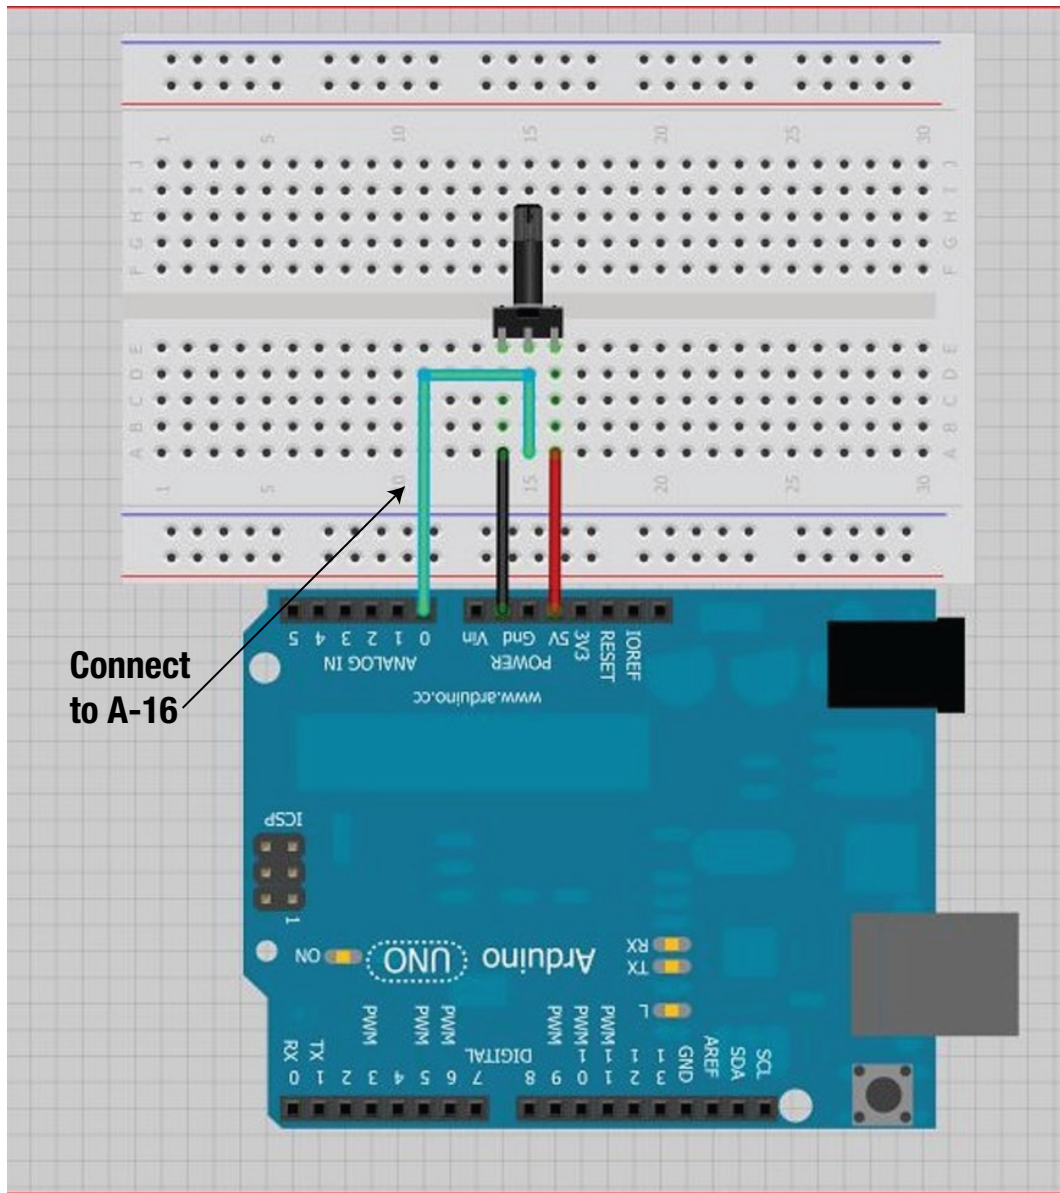

Figure 3-8. Connect the middle terminal of the potentiometer to the Arduino's Analog Input 0 (A0)
3. Next you'll use another jumper wire (at position A-16) to connect the middle pin of the potentiometer to the header on the Arduino labeled A0 (Analog Input 0). Figure 3-8 shows a close-up of the new (green) wire inserted between the GND and 5V wires that connect to the potentiometer.